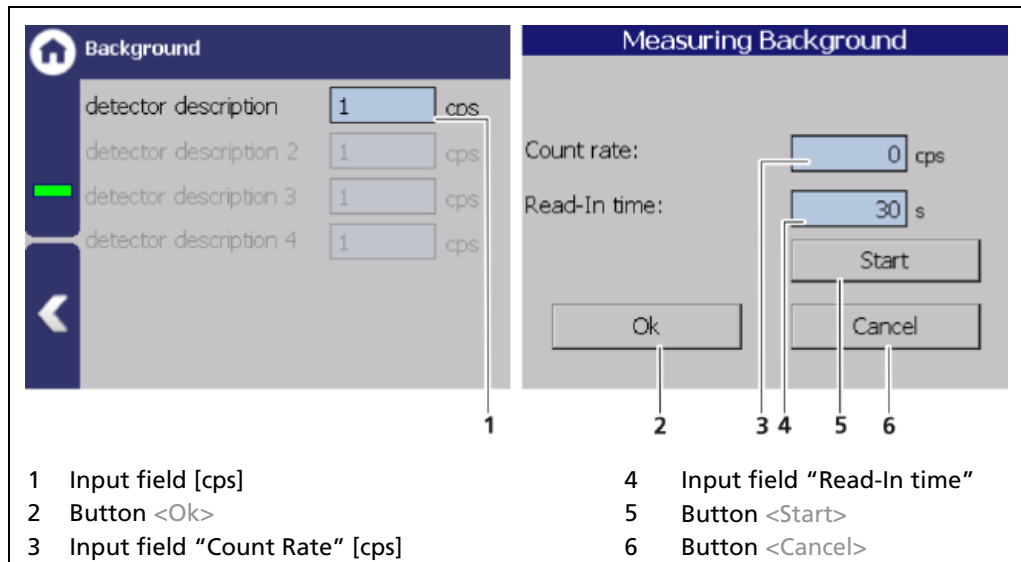
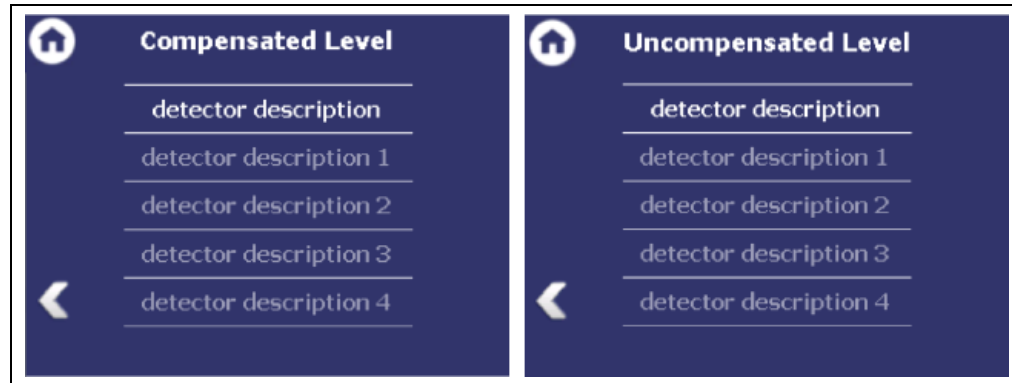

Fig. 67 Calibration Parameters: Background
Fig. 70 Submenus Compensated Level / Uncompensated Level (list of configured level detectors)
The background count rate (Fig. 67, item 1) is the natural background radiation detected by the detector. This count rate is compensated for by the system and must be determined for every added level detector (see Fig. 70).
If more than one level detector is configured, they are listed one below the other with the respective input fields as in Fig. 67 shown transparently.
1. Click on the input field (Fig. 67, item 1).